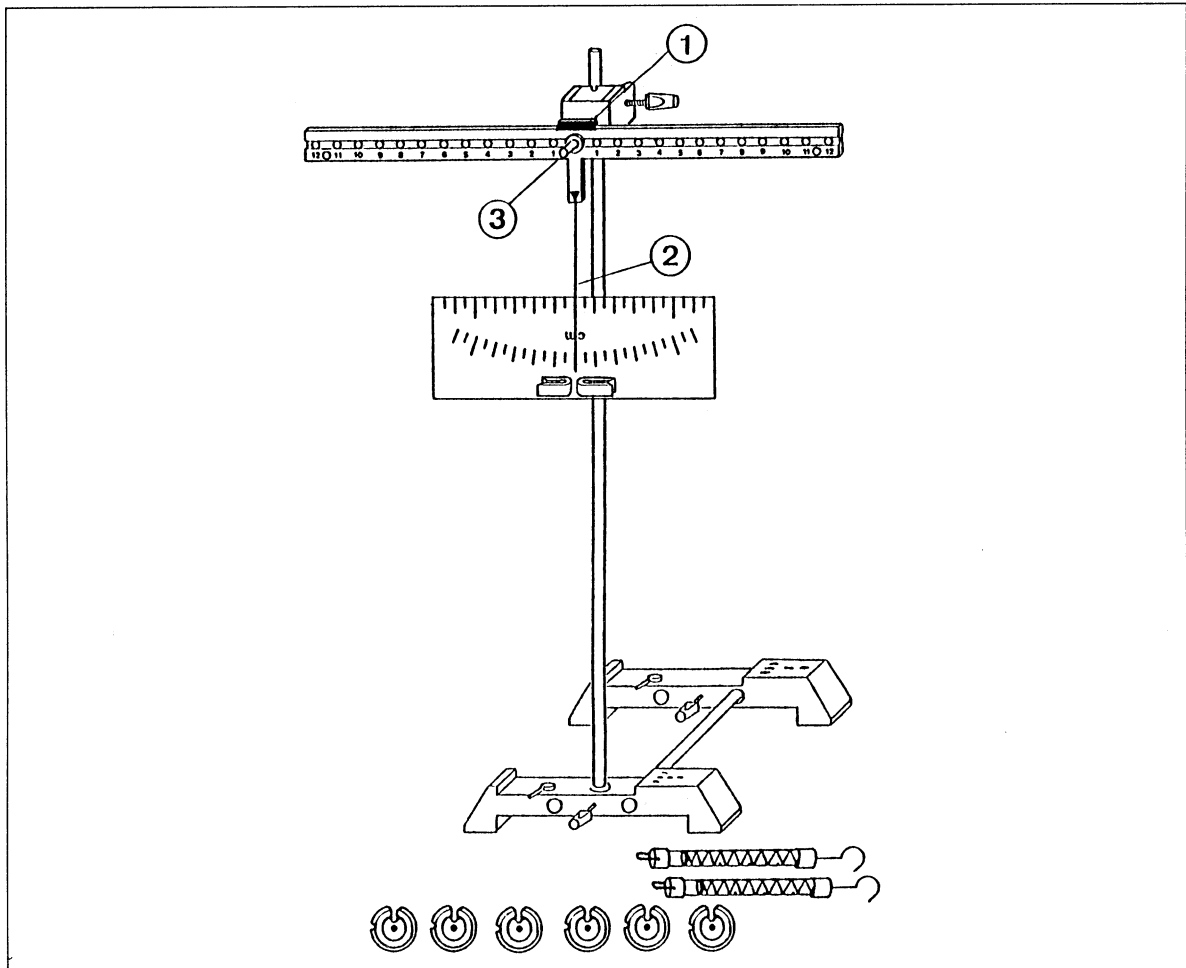

Fig. 1 Setup for experiments using two-sided levers
1. Assemble the apparatus as shown in fig. 1.